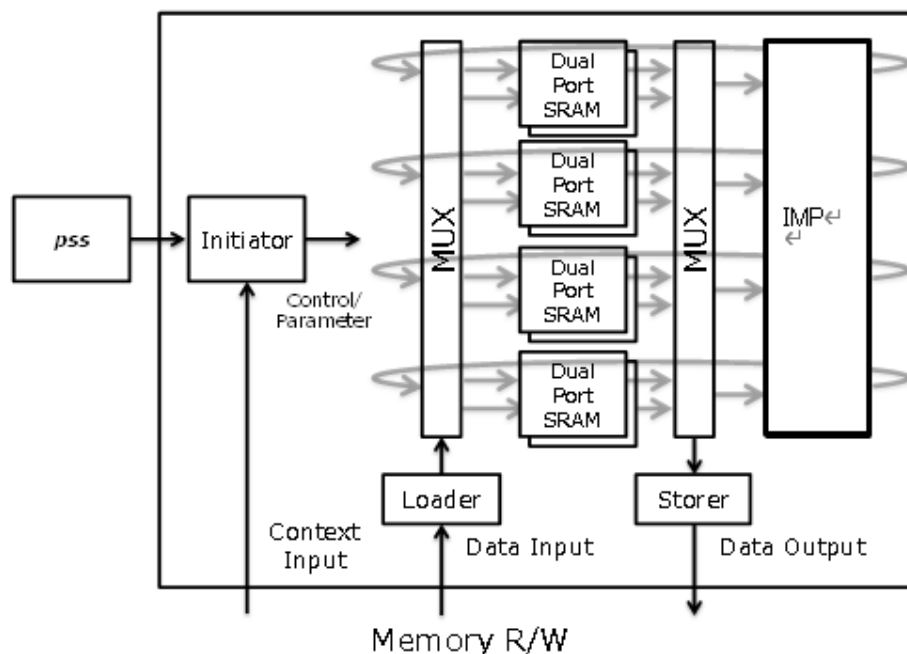

Figure 1 **SigImp** Block Diagram
- **SigImp** operates as a pipeline as shown in Figure 1 (Block Diagram).